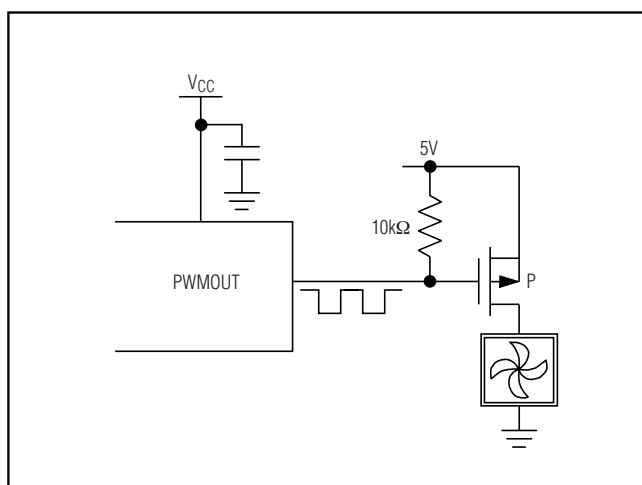

Figure 4. Driving a P-Channel MOSFET for Top-Side PWM Fan Drive
- 1) The PWMOUT\_ signals are normally used in one of three ways to control the fan's speed: PWMOUT\_ drives the gate of a MOSFET or the base of a bipolar transistor in series with the fan's power supply. The *Typical Application Circuit* shows the PWMOUT\_ driving an n-channel MOSFET. In this case, the PWM invert bit (D4 in register 02h) is set to 1. Figure 4 shows PWMOUT\_ driving a p-channel MOSFET and the PWM invert bit must be set to zero.